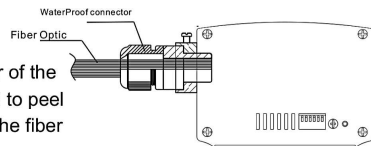

Fig.2
3. Collect all fibers in one bundle, Enlace all the fiber at the 10cm from fiber end with tape. Insert the fiber optic into light engine connector, screw the waterproof connector tightly. Cut the fiber optic smoothly along with light engine connector with hot knife(see Fig.2).